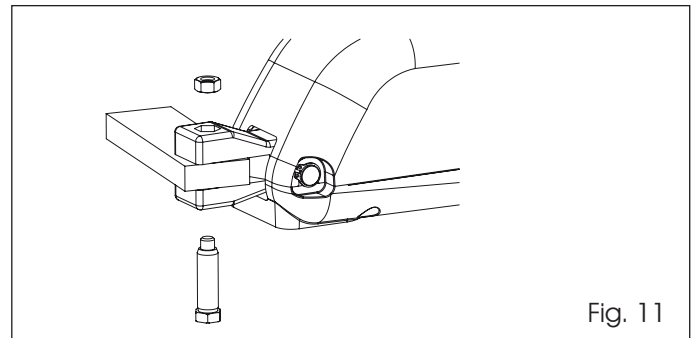

Fig. 11
8. Mount the operator to the rear bracket using the supplied pin as shown in Fig. 11.